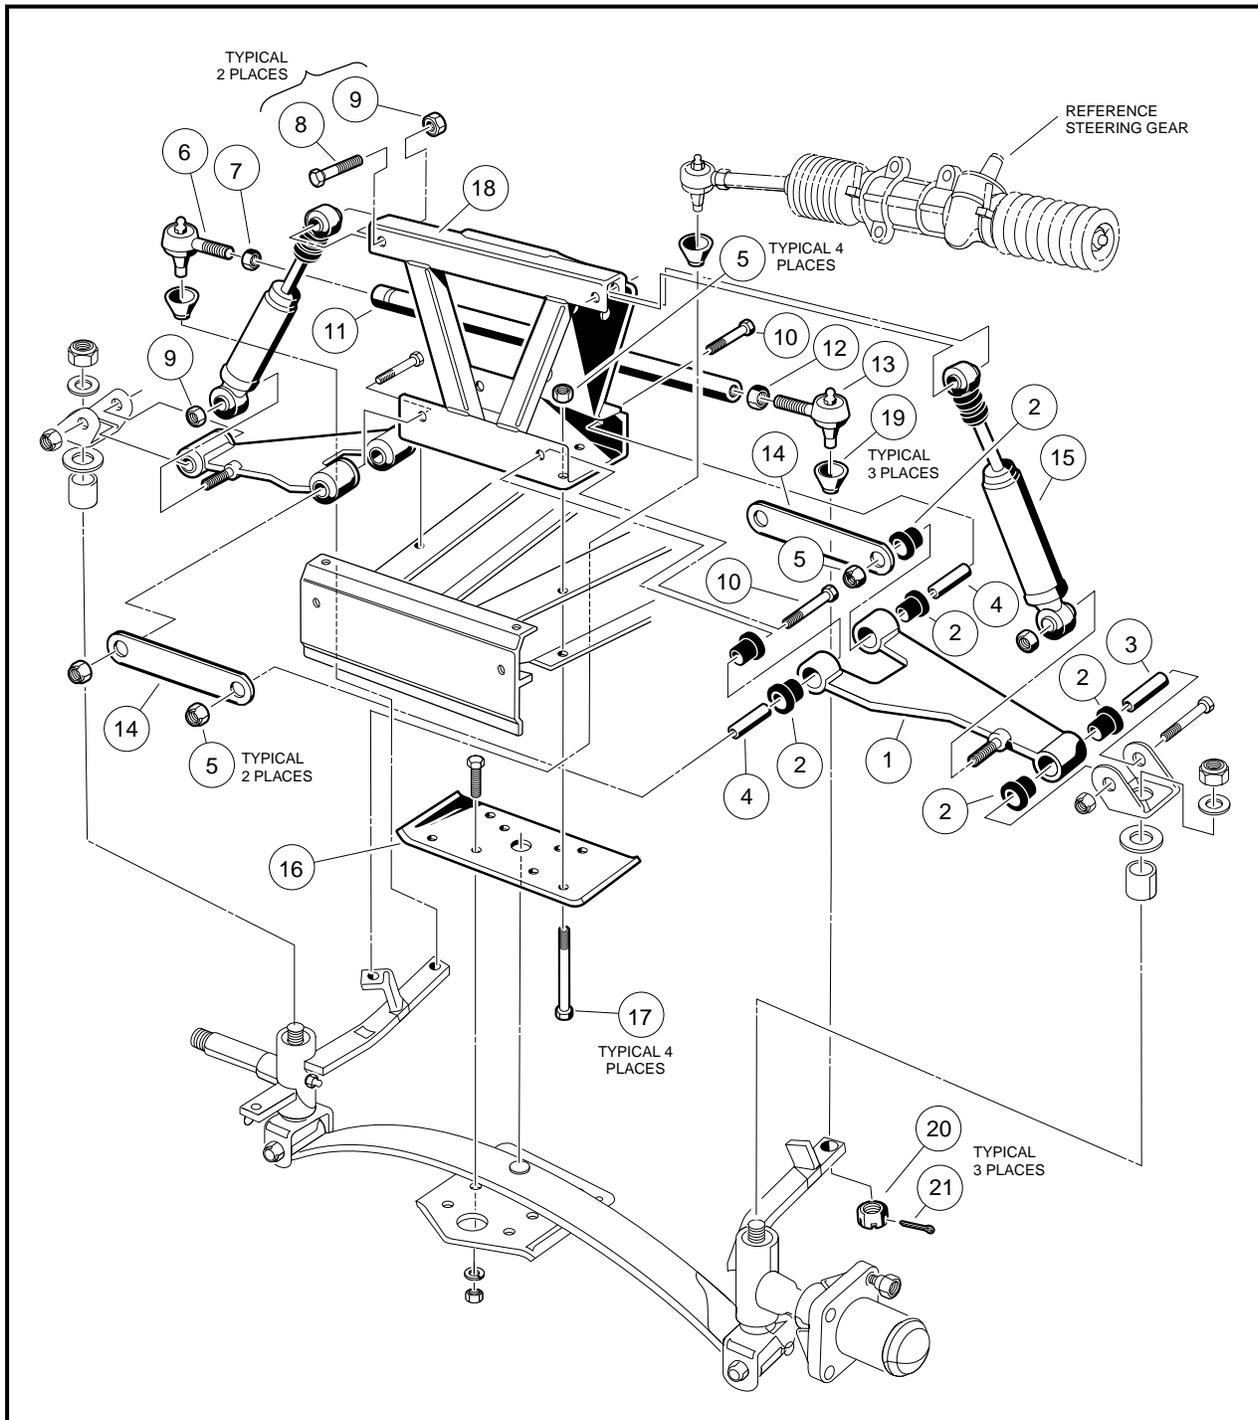

Figure 7-18 Upper Front Suspension Assembly
1. Remove the cotter pins (21) and ball joint retaining nuts (20) **(Figure 7-18, Page 7-15)**.
3. Unscrew the drag link (28) from the inner ball joint assembly (3) **(Figure 7-13, Page 7-11)**. Remove the ball joints (6 and 13) from the tie rod (11) **(Figure 7-18, Page 7-15)**.
1. Thread the ball joints (6 and 13) into the tie rod (11) to thread depth of 1/2 in. (12.5 mm) **(Figure 7-18, Page 7-15)**.
2. Remove cotter pins (21) and nuts (20), then remove ball joints from the spindles (**Figure 7-18, Page 7-15**). **See Tie Rod and Drag Link Removal, page 7-10.**
5. Attach the ball joints to the spindle arms, install and tighten the nut (20), and install the cotter pin (21) (**Figure 7-18, Page 7-15**).
2. Remove the bolts (10), A-Plate straps (14), and nuts (5) (**Figure 7-18, Page 7-15**).
3. Remove the lower shock absorber mounting nut (9), then slide the shock absorber free of the Delta A-Plate (**Figure 7-18, Page 7-15**).
4. Remove the Delta A-Plate (1) (**Figure 7-18, Page 7-15**).
5. Inspect the bushings (2) in the Delta A-Plate and replace them if necessary.
1. Install the A-Plate in reverse order of removal. Tighten the A-Plate suspension bolts (10 and 24) to 20 ft.lb (27.1 N-m) (**Figure 7-18, Page 7-15**).
2. Tighten shock absorber mounting nut (9) to 20 ft.lb (27.1 Nm).
2. Remove the nut (9) attaching the shock absorber to the A-Plate (**Figure 7-18, Page 7-15**).
3. Remove nut (9) and bolt (8) attaching shock absorber to the vehicle frame (**Figure 7-18, Page 7-15**).